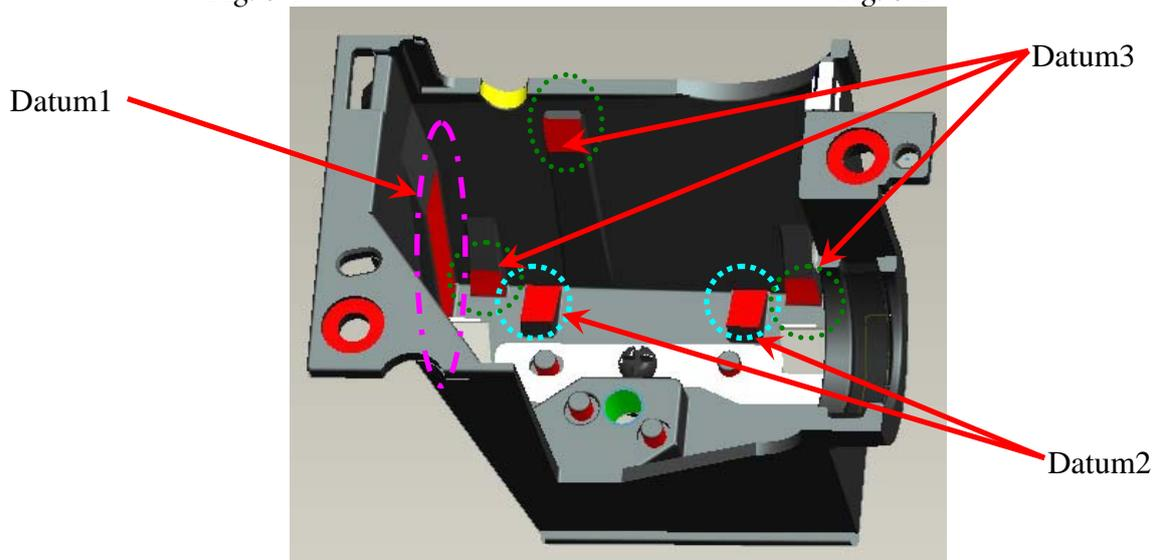

Fig. 6-3
- II. Assemble CM to HSG ILL and to make CM contact three datum on the HSG ILL Well (Fig. 6-3).